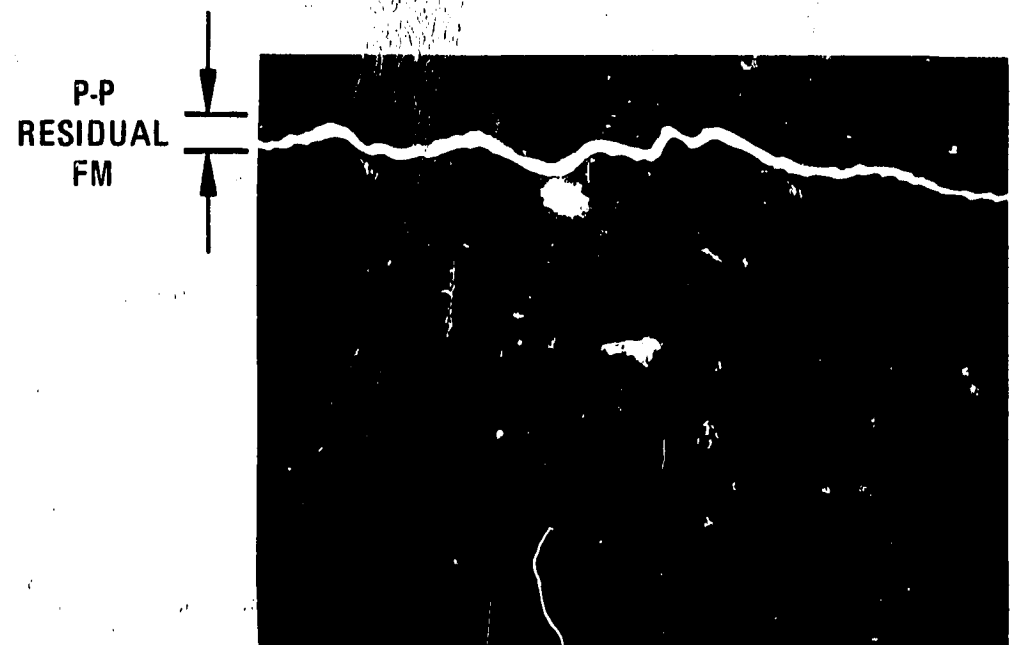

Figure 4-7. Residual FM Display
6. Slightly readjust spectrum analyzer fine TUNING control until trace appears in upper half of graticule on CRT. Peak-to-peak variation of trace should not exceed one division vertical for each horizontal division. (See Figure 4-7)